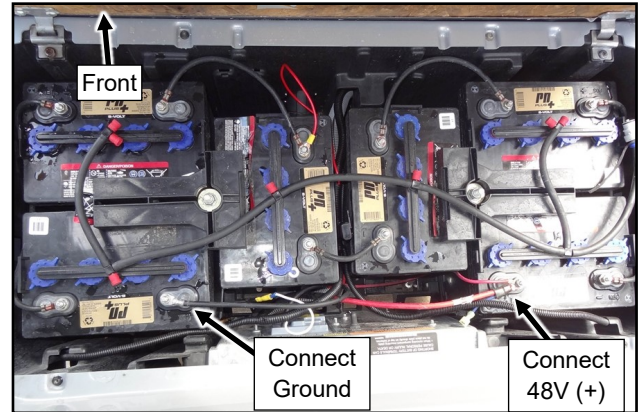

Fig. 5.9 (Vehicle Side 48V Connection)
- 5.9 Per Figure 5.9, route the blue wire to the 48V+ post at the end of the battery series and connect. Route the black wire to the ground post and connect.